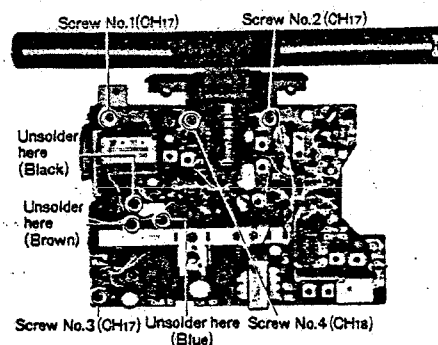

Fig. 5
4. Remove the three (3) screws (nos. 1, 3 & 4) for the dial assembly, as shown in fig. 5.
2. Remove two (2) screws for the gyro-antenna (nos. 2 & 4), as shown in fig. 5.
4. To remove gyro-antenna completely unsolder lead wires from chassis, as shown in fig. 5.